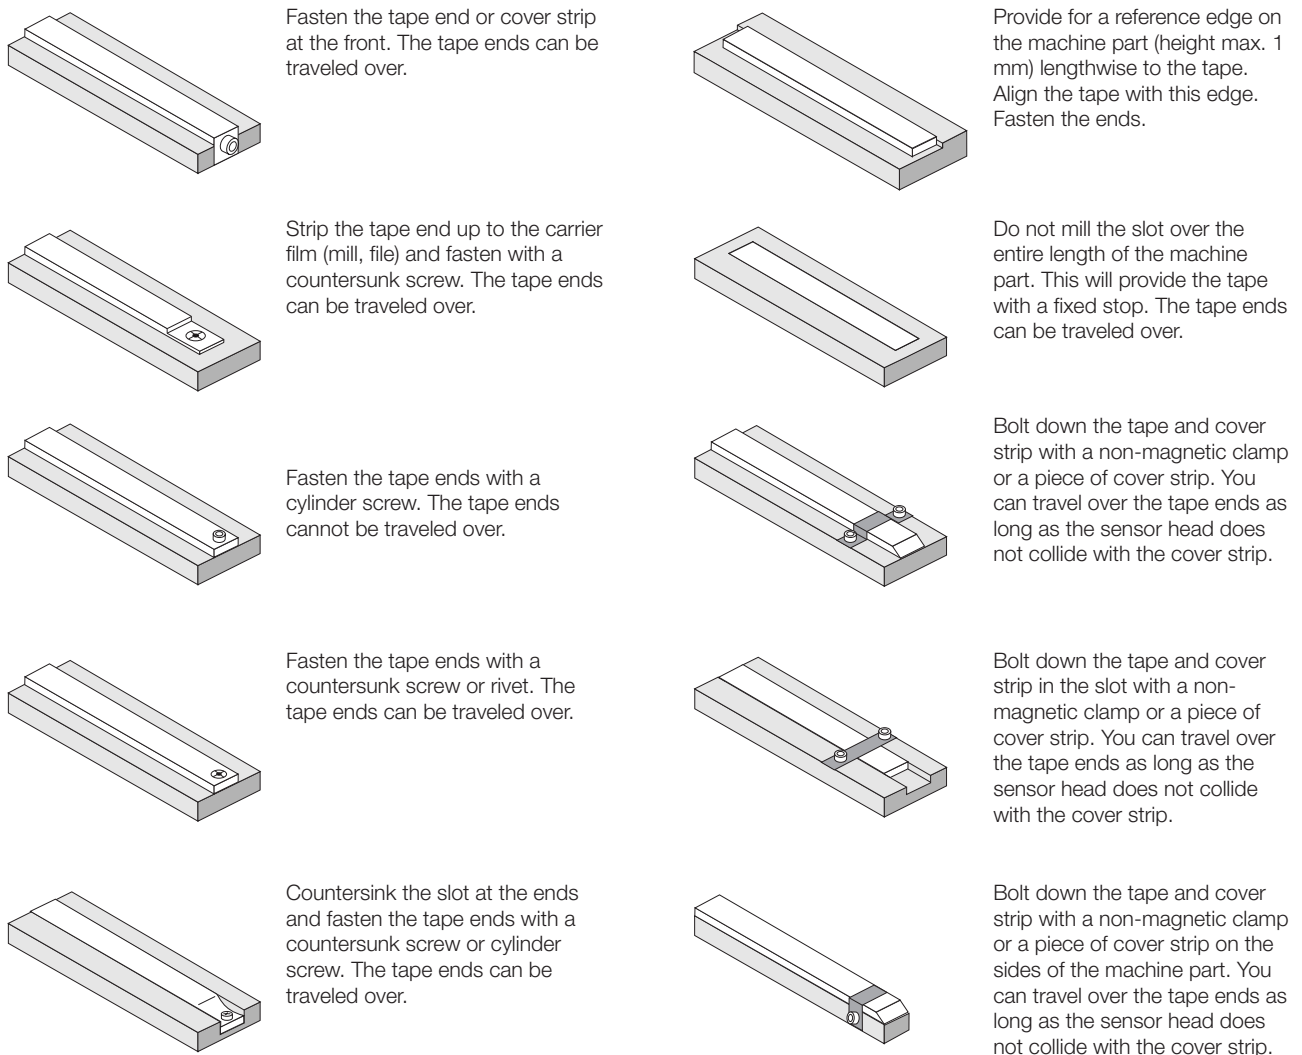

Fig. 4-6: Fasten the tape ends with screws, rivets, and clamps
8. Optional: Fasten the tape ends (see Fig. 4-6).
Fig. 4-6 shows a few fastening options:
Always fasten the tape ends with cylinder screws, countersunk screws, or clamps (see Fig. 4-6).